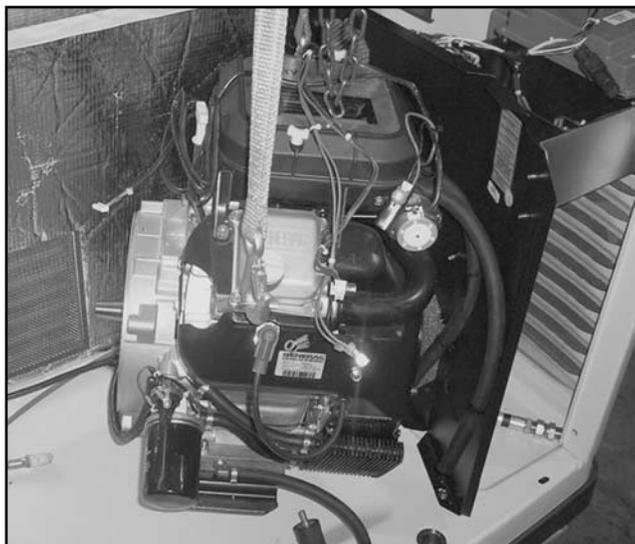

Figure 44.
12. Remove Engine: Using proper lifting equipment remove the engine. See Figure 44.